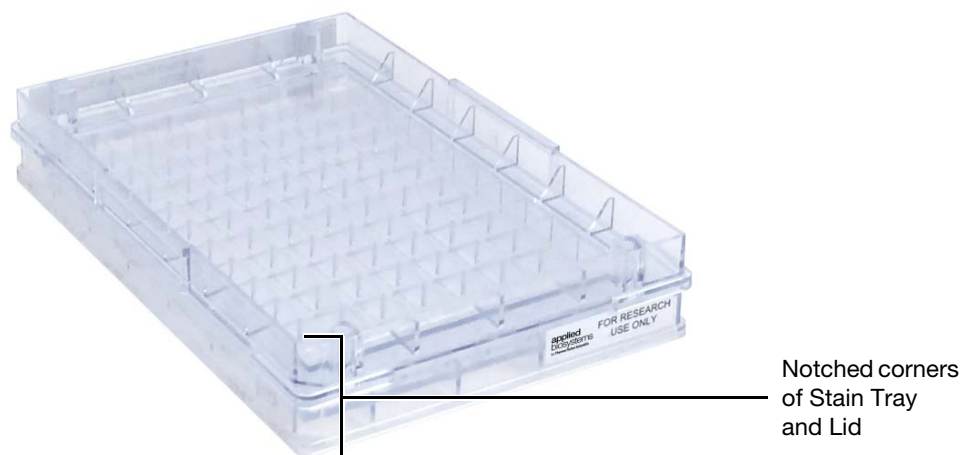

Figure 22 Placing cover on Stain Tray. Notched corners should face front.
4. Place covers on the S1 trays. Orient cover correctly on the tray with the notched corners together (Figure 22).
4. Place a cover on the S2 tray. Orient the cover correctly on the tray with the notched corners together (Figure 22).
4. Place a cover on the tray. Orient cover correctly on the tray with the notched corners together (Figure 22).